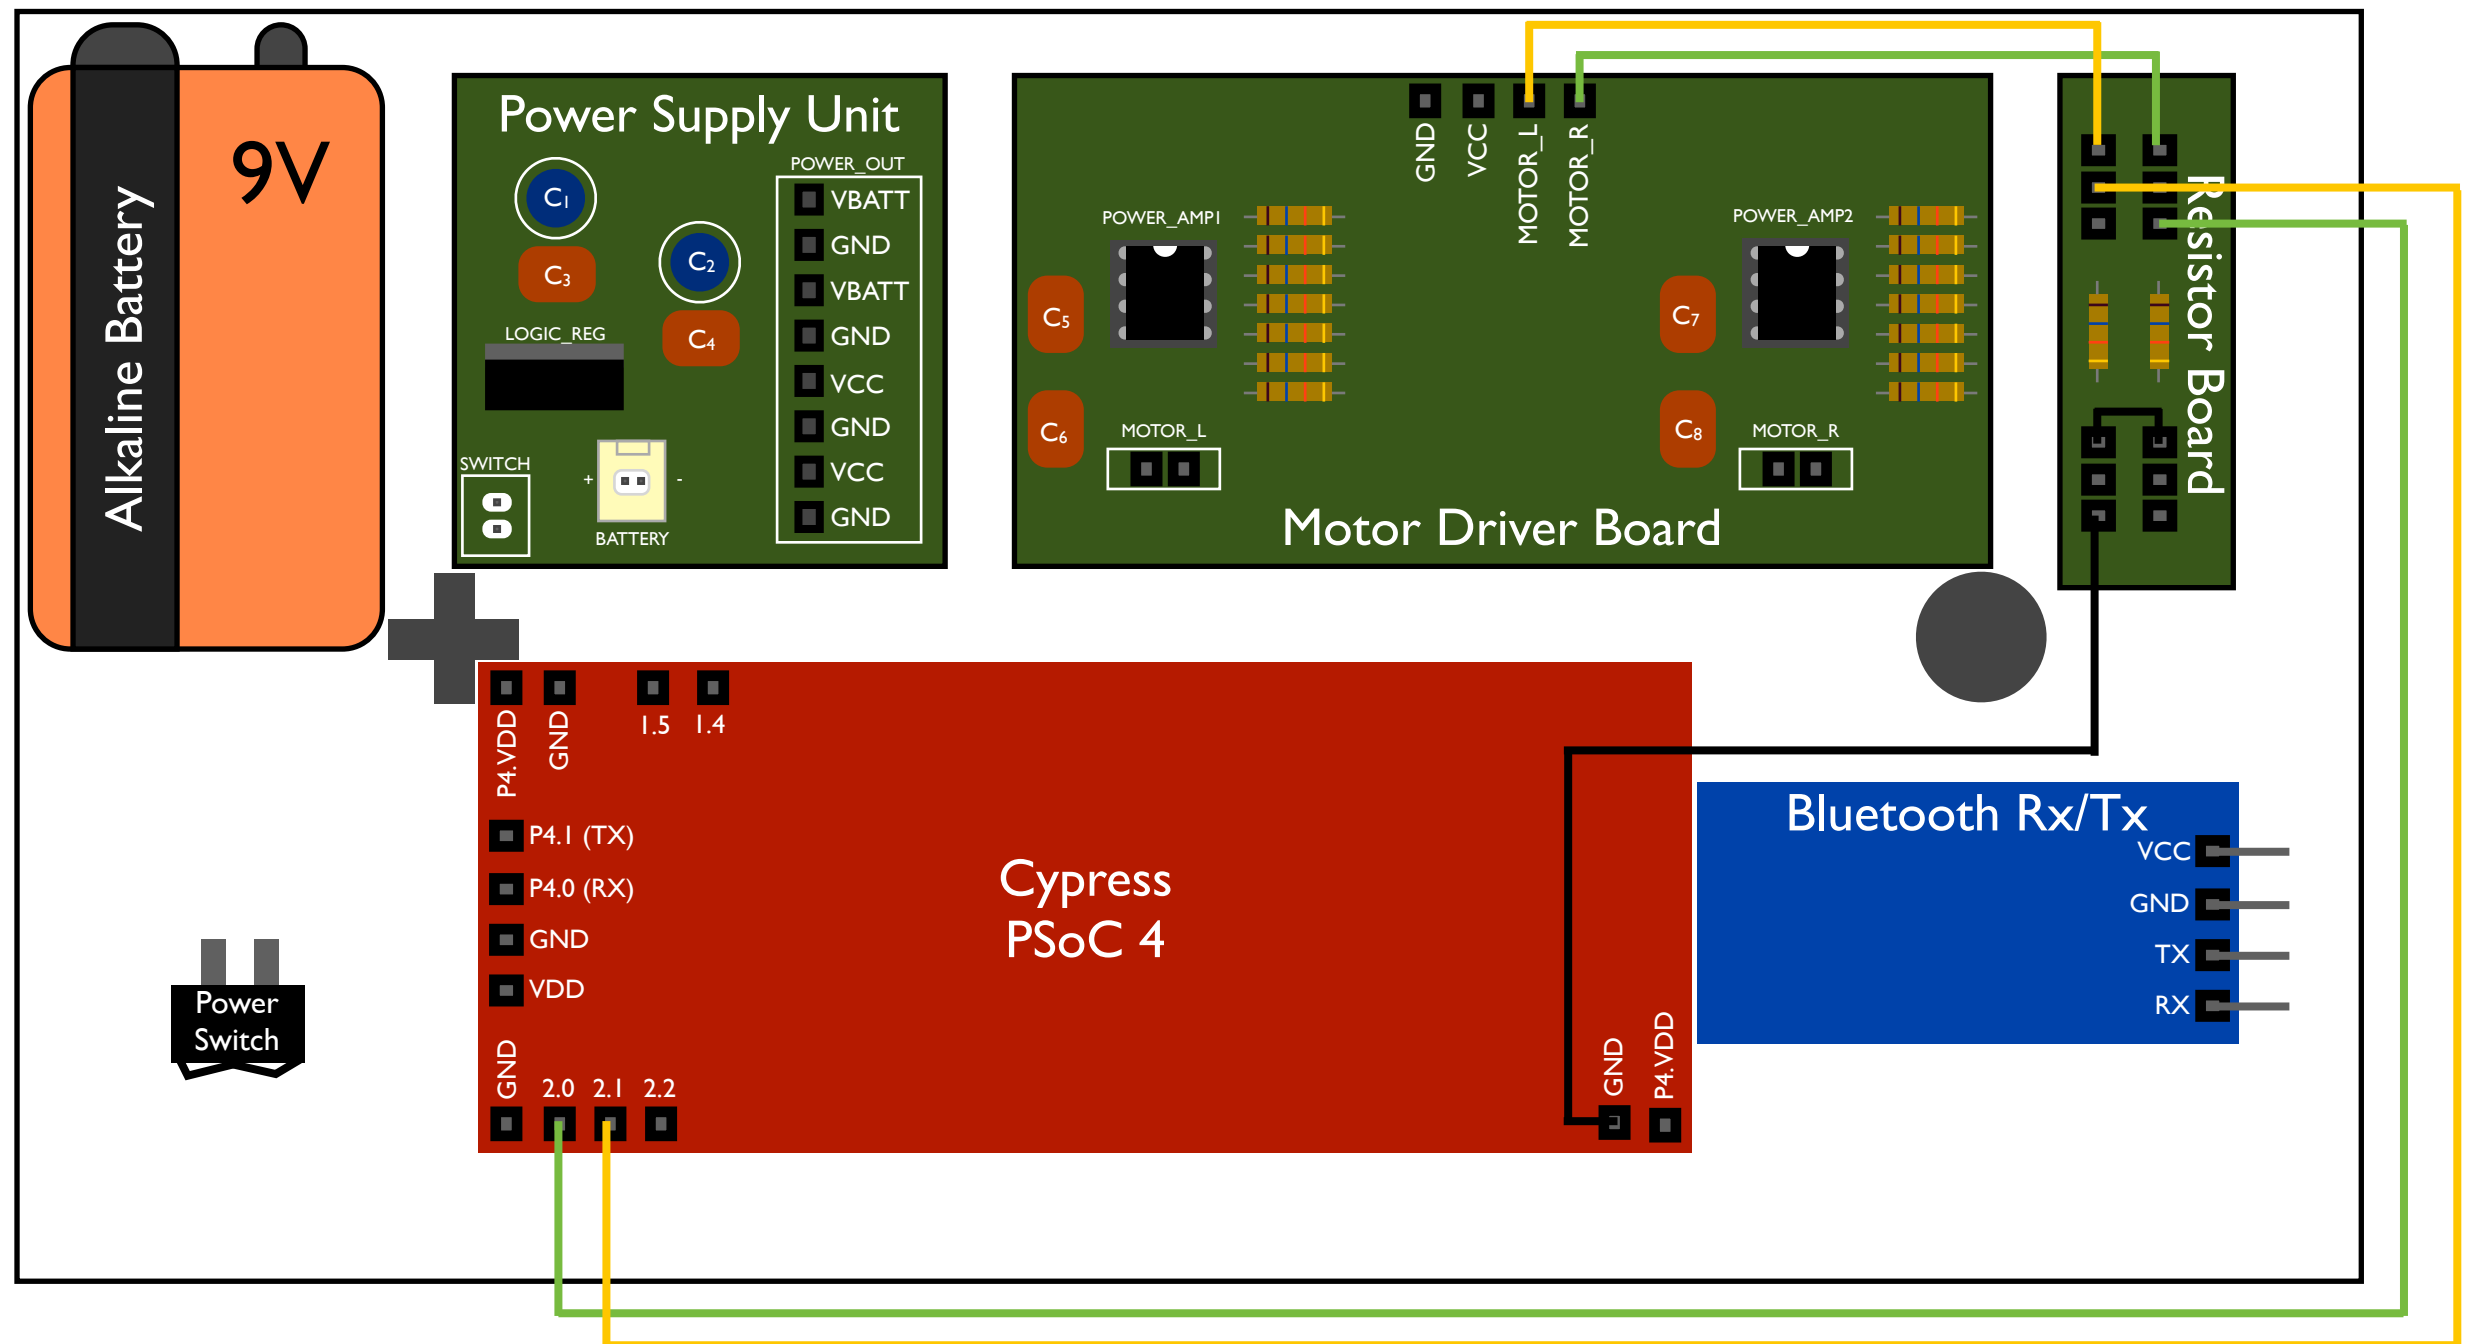

Figure 10. Using green and yellow jumper wires to connect Motor Driver Board to PSoC, through the Resistor Board
10. Connect Motor Driver Board to PSoC, through the Resistor Board (Figure 10)